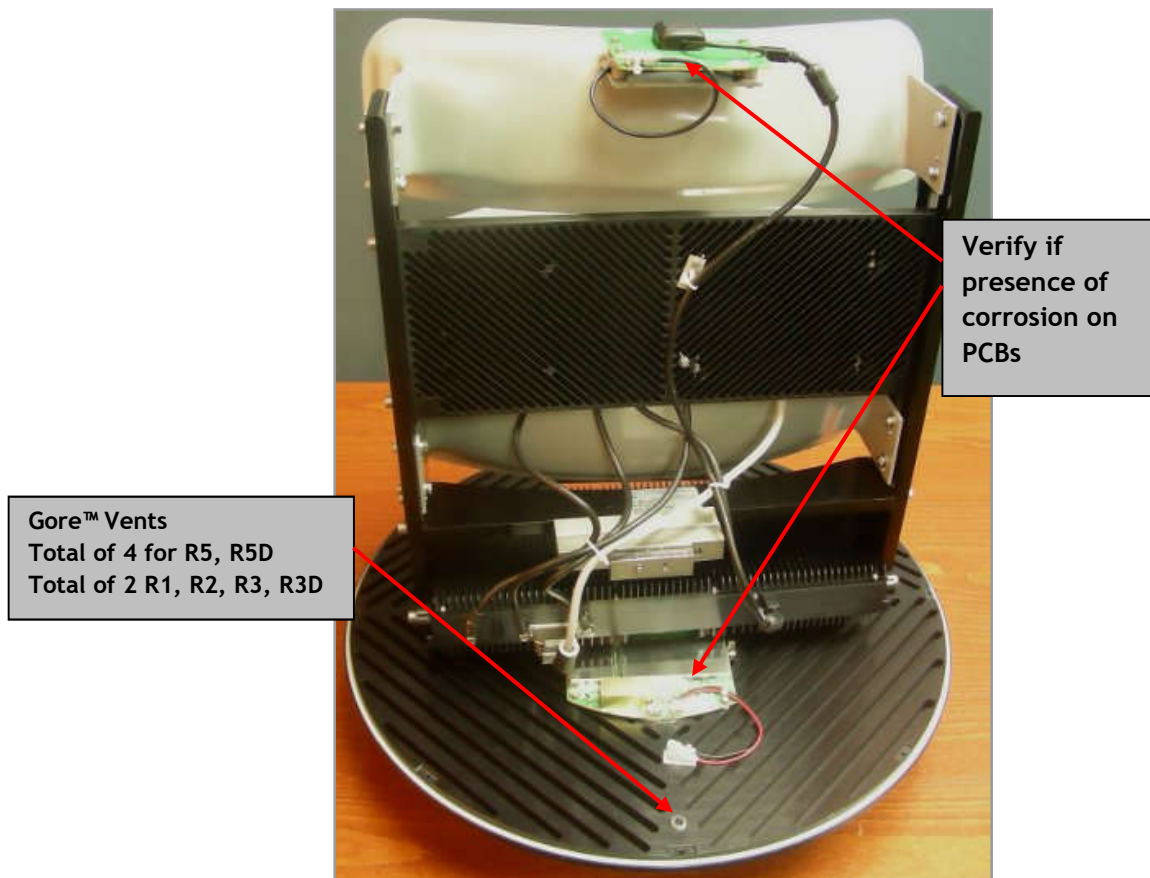

Figure 30 - Check mechanical components (R5, R5D shown)
- Step 8 Verify that the Gore Vents are not obstructed or broken (Figure 30).